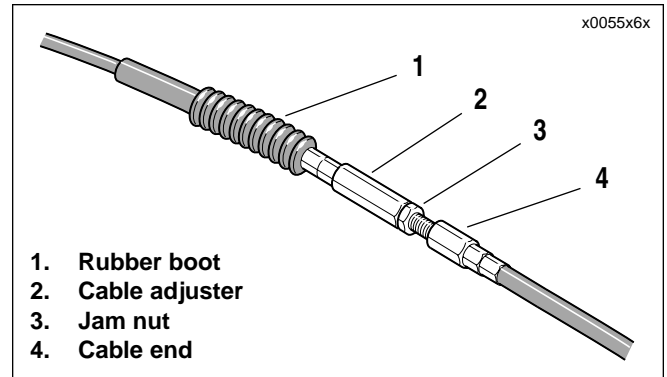
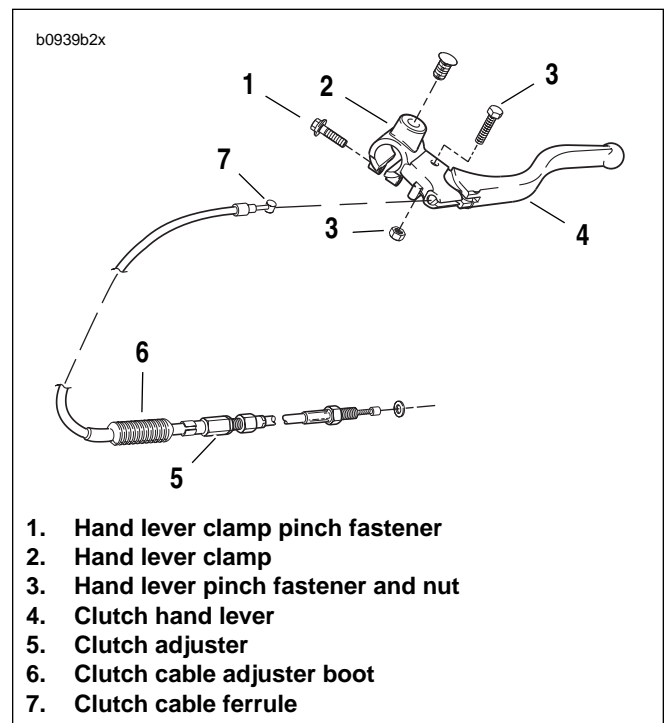

Figure 2-95. Clutch Cable Adjuster Mechanism
Figure 2-96. Clutch Hand Control Assembly
8. See Figure 2-95. Slide clutch cable adjuster boot (1) up to access clutch adjuster (2).
9. Loosen clutch adjuster (2) to release tension from hand lever and clutch release mechanism.
10. See Figure 2-96. Remove clutch cable ferrule (7) from hand lever (4).